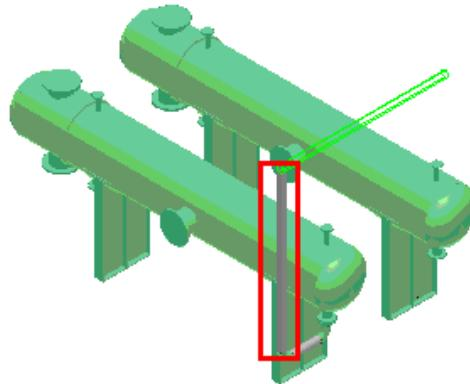

Figure 2.33: Routed Pipe in the Vertical Direction
35. Now, on the **Route Pipe** ribbon, key in **9 ft** in the **Length** drop-down list and use SmartSketch to locate the **U** glyph. Click in the graphic view to place the pipe, as shown in Figure 2.33.